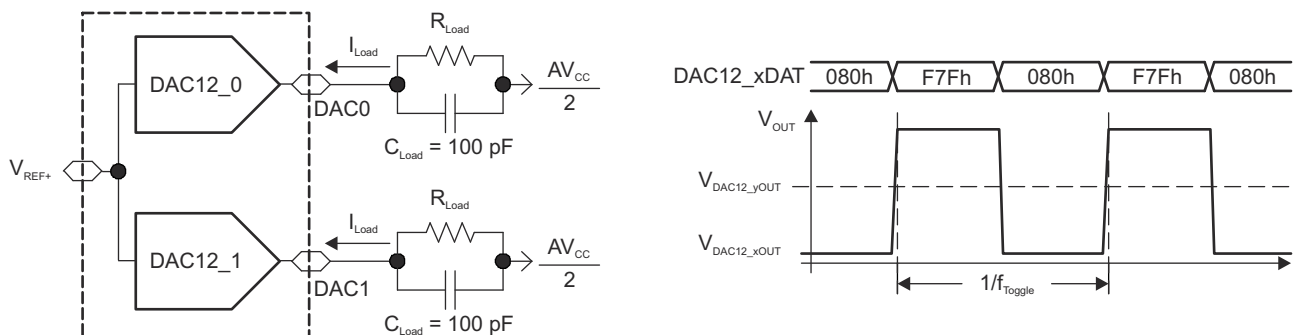

**图 8-22. Crosstalk Test Conditions**
| Channel-to-channelcrosstalk (1)(see 图 8-22)                                                             | DAC12_0DAT = 800h, No load,DAC12_1DAT = 80h ↔ F7Fh, R Load = 3 kΩ,f DAC12_1OUT = 10 kHz at 50/50 duty cycle,T A = 25°C | 2.2 V, 3 V      |     | -80 |     | dB   |